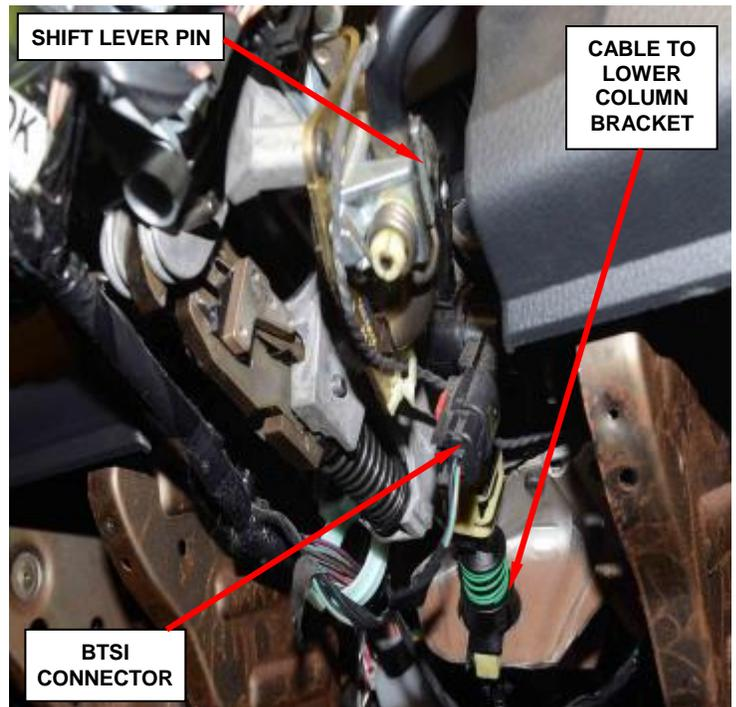

Figure 69 – Gear Shift Cable
13. Disconnect the gearshift cable from the column (Figure 69).